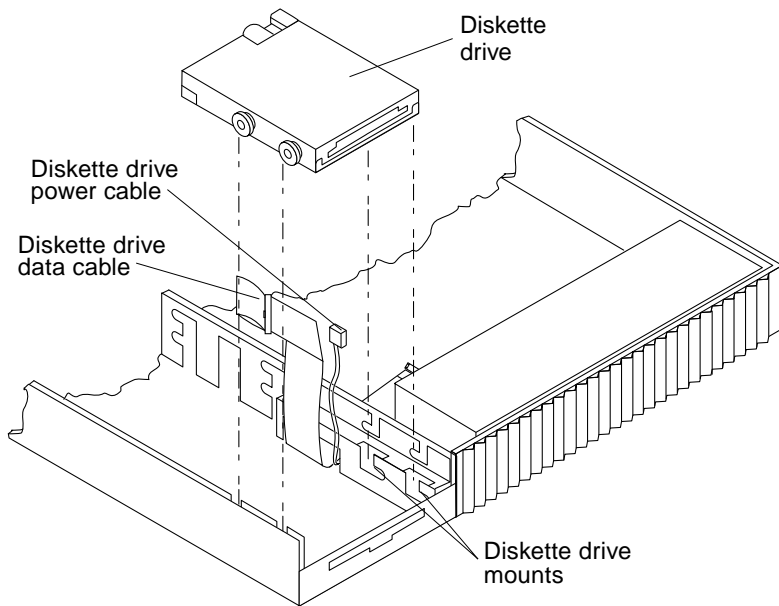

FIGURE 9-19 Installing the Diskette Drive
3. Lift the diskette drive data cable and the diskette drive power cable up. Lower the diskette drive into position. Push the diskette drive forward to fully seat in the diskette drive mounts (FIGURE 9-19).